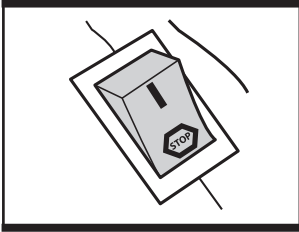

Fig. 14
- b). Set the ignition switch (A18) to its off position "STOP". (See Fig. 14)